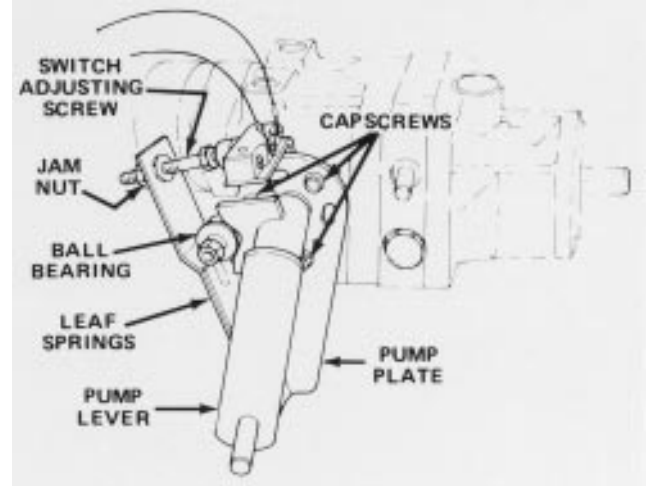

Figure 57
1. Park vehicle on a level surface and turn engine off. Apply the parking brake, tip seat forward, and actuate pump lever (Fig. 57) to insure assembly is properly seated and operating freely. Correct any discrepancy.
6. Because the wheel is rotating, the pump plate must be adjusted. But before adjusting the pump plate, move throttle to SLOW. If wheel is rotating forward, loosen capscrews, and lightly tap bottom of pump plate counterclockwise (Fig. 57). By contrast, tap pump plate clockwise if wheel is rotating backward (Fig. 57). When wheel stops rotating, tighten capscrews holding pump plate against side of transmission. Verify the adjustment with throttle in SLOW and FAST position.
- A. Ball bearing is loose or worn out (Fig. 57).
- F. Weak or damaged leaf springs (Fig. 57). Replace.
2. Actuate the pump lever (Fig. 57) to insure all parts are operating freely and seated properly.
3. Loosen jam nut. Rotate switch adjusting screw (Fig. 57) until there is a gap between head of screw and switch button.